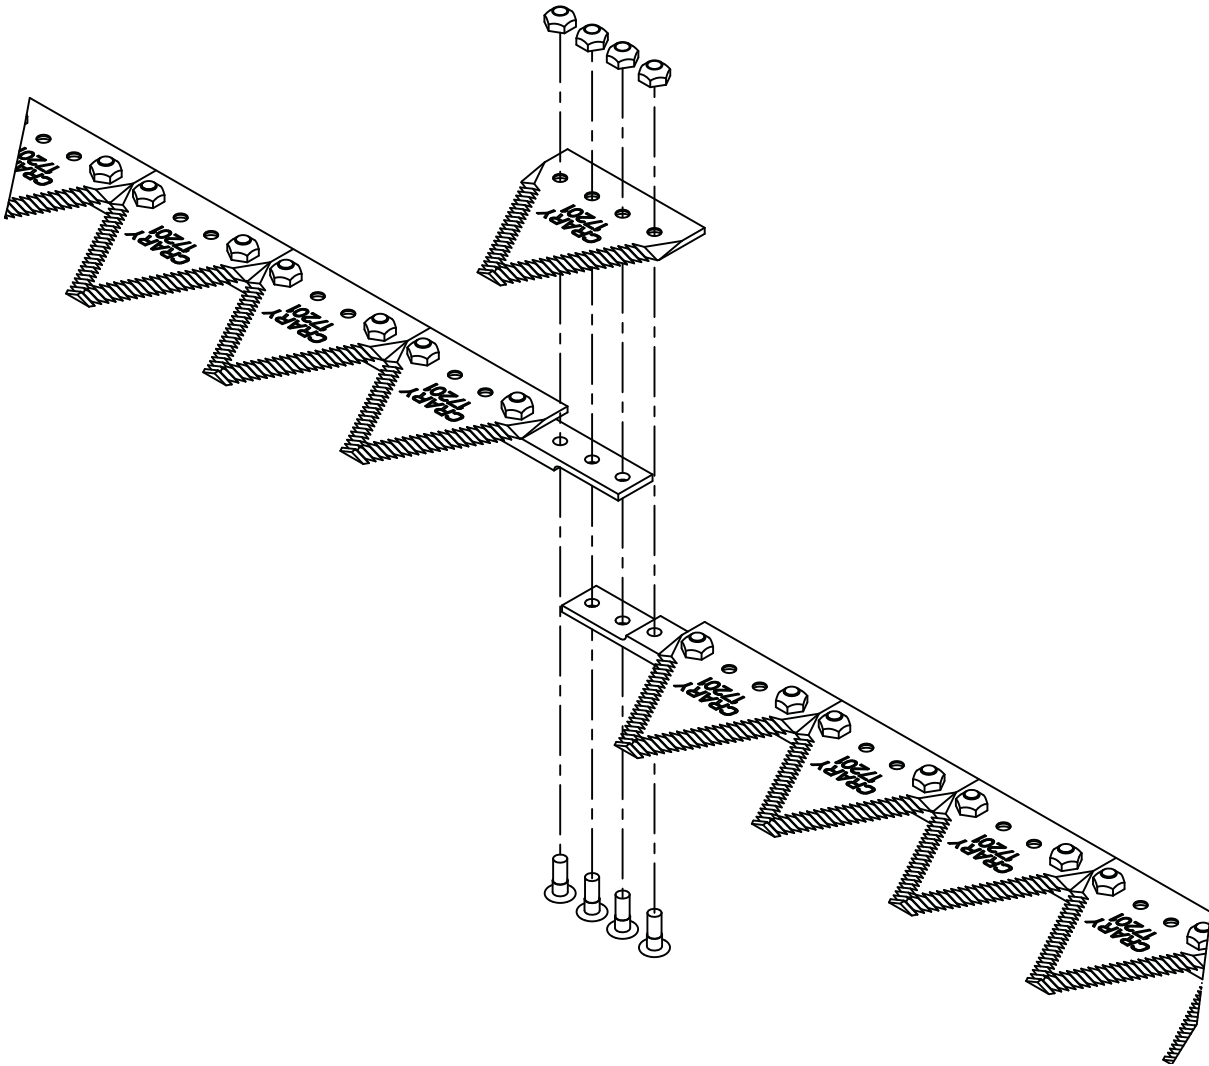
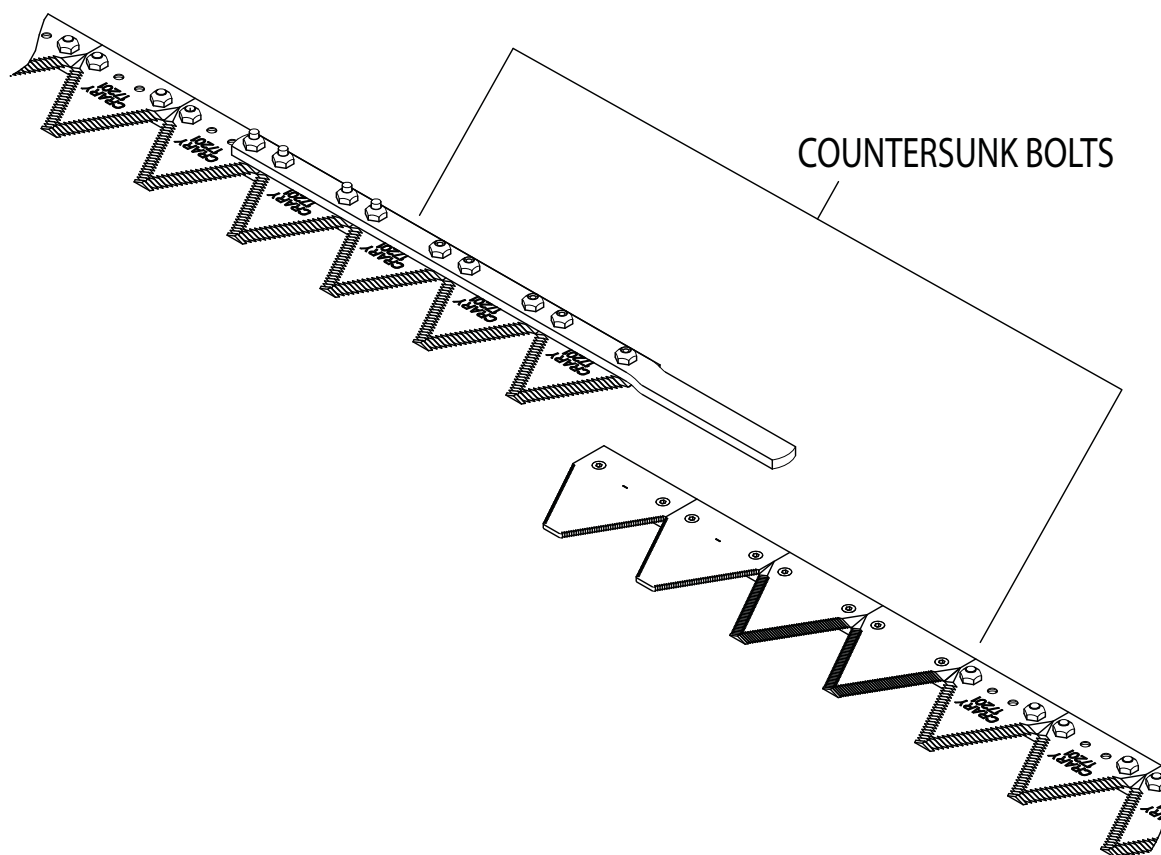

Figure 2.1 - ThunderBOLT Assembly (Single Drive).
Figure 2.2 - ThunderBOLT Assembly (Double Drive).
3. Align ThunderBOLT spliced ends, as shown in Figure 2.1.
4. On the left knife, connect the ThunderBOLT as illustrated in Figure 2.2. Four bolts and nuts are used on each joint.
5. On the right knife, two or more sickle bars may be used. One sickle bar uses the standard ThunderBOLT system as shown in Figure 2.1. The other sickle bar uses an overlap strap that is connected to the top of the section (Figure 2.2). Connect the appropriate ThunderBOLT sickle bar.
8. Verify the overlap area (generally the top of the left knife assembly and the bottom of the right knife assembly—some machines may be opposite) is smooth to prevent interference. Figure 2.2 illustrates special right knife sections with countersunk holes on the bottom to allow a flush bolt head to fit underneath. The left knife's special sections have countersunk holes on the top for a flush bolt head fit on the top side.